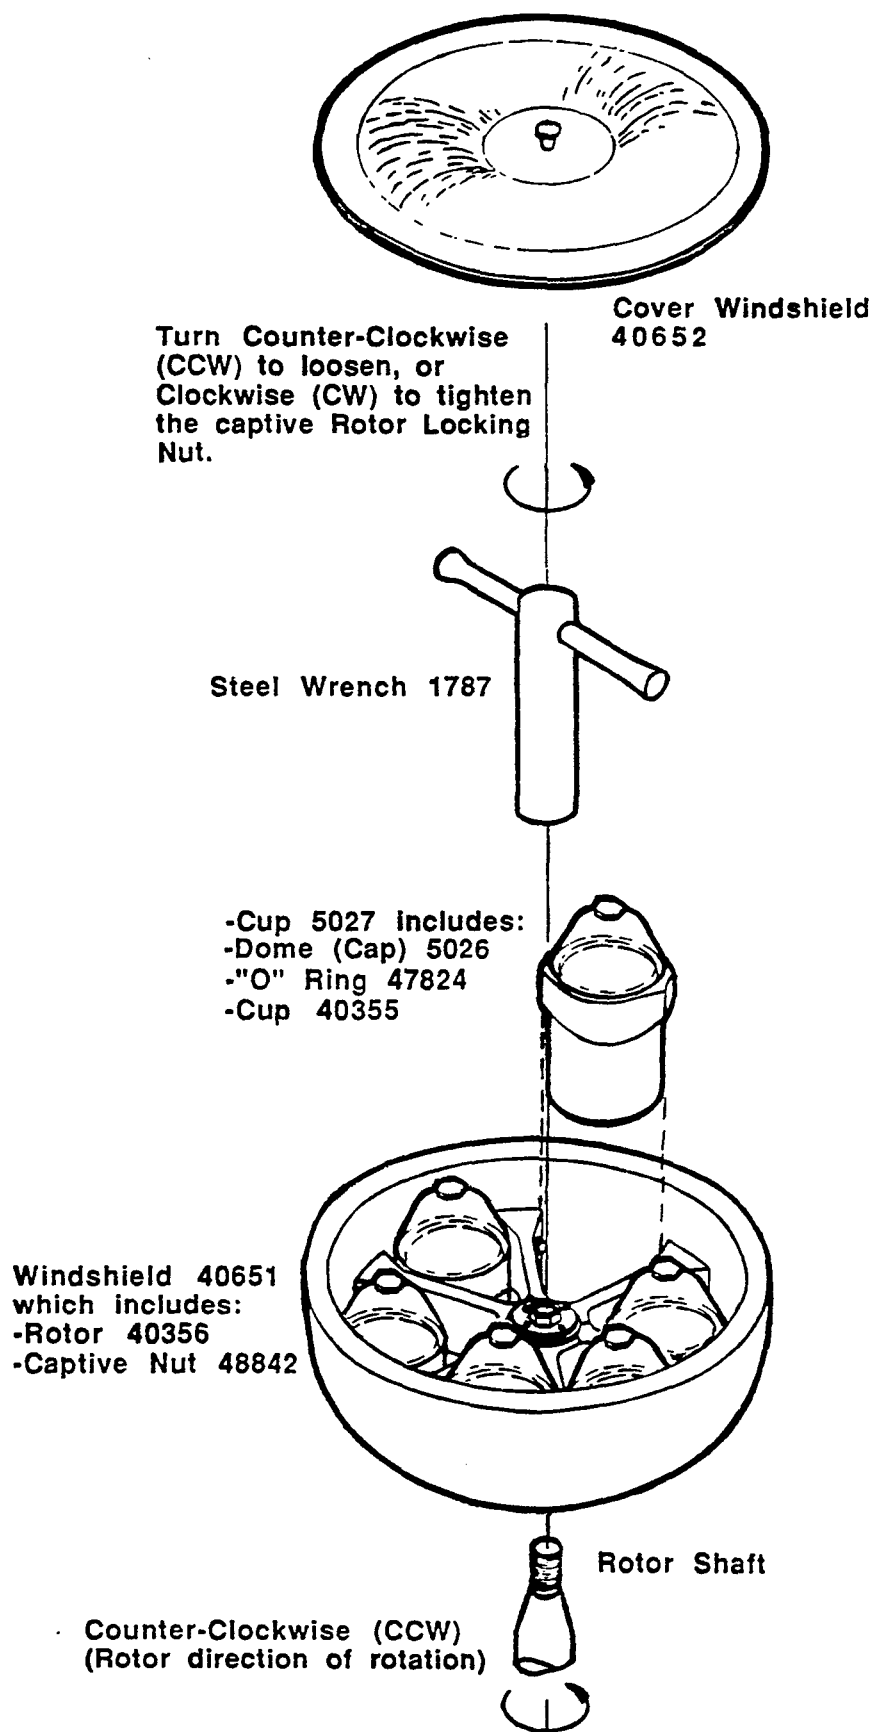

Figure 3-2 966 Rotor Assembly
4. DO NOT OPERATE THIS CENTRIFUGE IF THE ROTOR OR ACCESSORIES SHOW SIGNS OF DETERIORATION OR CORROSION IF DETERIORATION OR CORROSION IS VISIBLE, STOP USING AND REPLACE THE ITEM(S) IMMEDIATELY.
5. REFER TO PARAGRAPH 3.4.2 AND TO FIGURE 3-2 FOR THE CORRECT ROTOR INSTALLATION PROCEDURE.